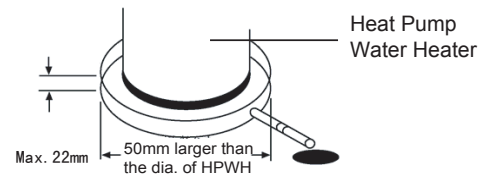

Fig. 5-2
- For indoor installation, a water tray as suggested in Fig 5-2 is recommended to prevent leakage due to blockage during draining.